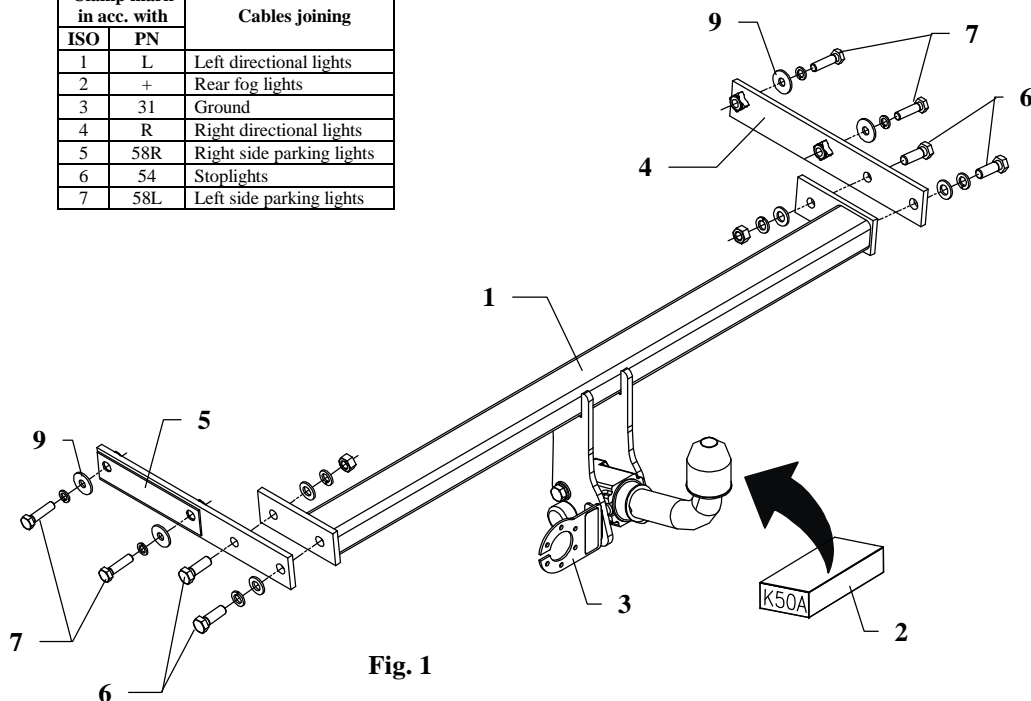

Fig. 1
2. Inside chassis members slip suitable side brackets (pos. 4 and 5) in this way, so holes of brackets agree with factory prepared holes in chassis members. Fix loosely using bolts M10x40mm (pos. 7) as shown on figure 1.
3. Between installed side brackets slip main bar of the towbar (pos. 1) and fix using bolts M12x35mm (pos. 6) as shown on figure 1.